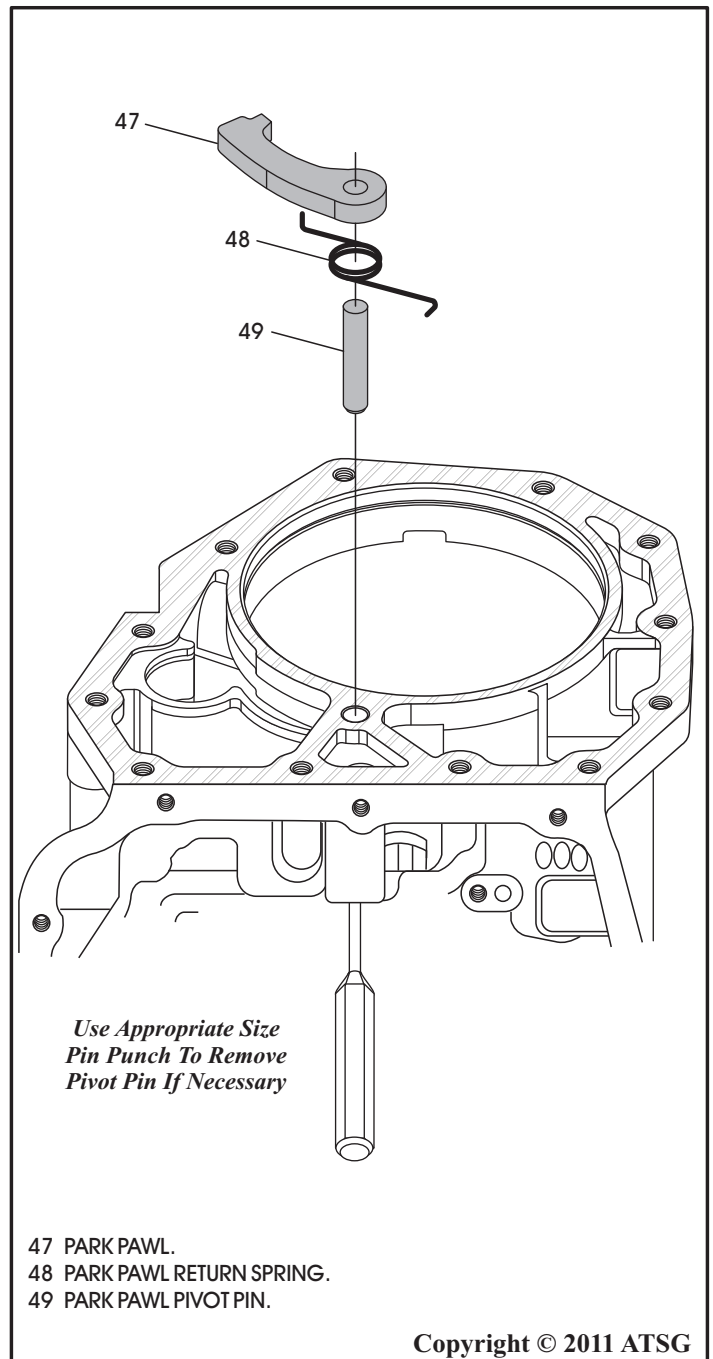

Figure 57
51. If it does become necessary, use an appropriate size pin punch through the access hole at rear of the case to push out the park pawl pivot pin, as shown in Figure 57.
52. Remove the park pawl and return spring through the inside of the case (See Figure 57).